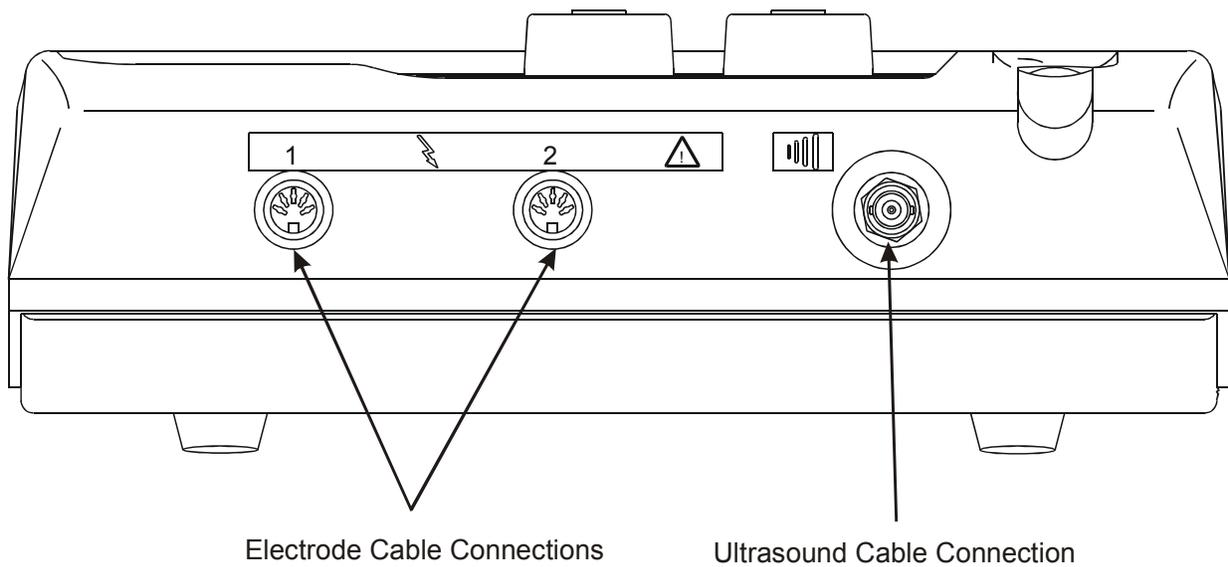
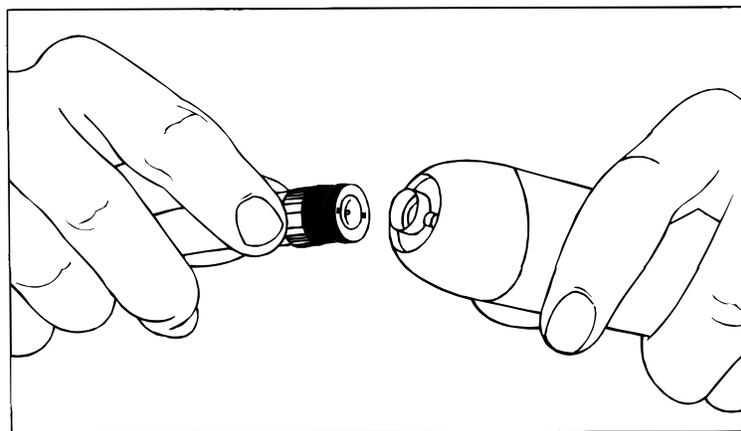

Figure 3.2 – Sonicator Plus 930, Front View –
Figure 3.3 – Connecting the Applicator to the Universal Applicator Cable, *line up pegs, push in all the way and rotate ¼ turn clockwise*
4. Push the hooded, water-proof applicator cable connector (ME 7392) into the round BNC receptacle located on the front of the Sonicator Plus 930. (See Figure 3.2) Connect the applicator model 7513 to universal applicator cable using the BNC connector. (See Figure 3.3). Secure both connectors by lining up the pegs, pushing in all the way and rotating $\frac{1}{4}$ turn clockwise. To maintain waterproof characteristics of the BNC connectors make sure that all connections are dry before attempting to connect them.
6. Plug the electrode cables (ME 2260) into the electrode cable connections as seen in Figure 3.2. For combination therapy procedures, plug the single line electrode cable (ME 2261) into the electrode connection for Channel 1.